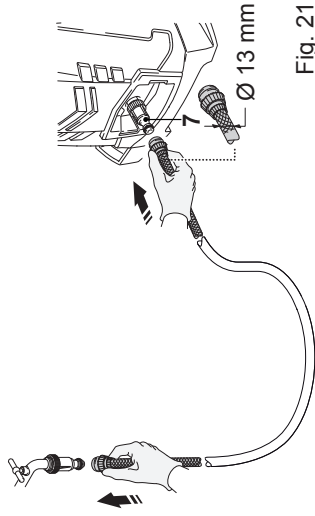

Fig. 21
Attach a suitable water hose to the water supply and then attach the other end to the water hose inlet connector (7) of the product (Fig. 21).